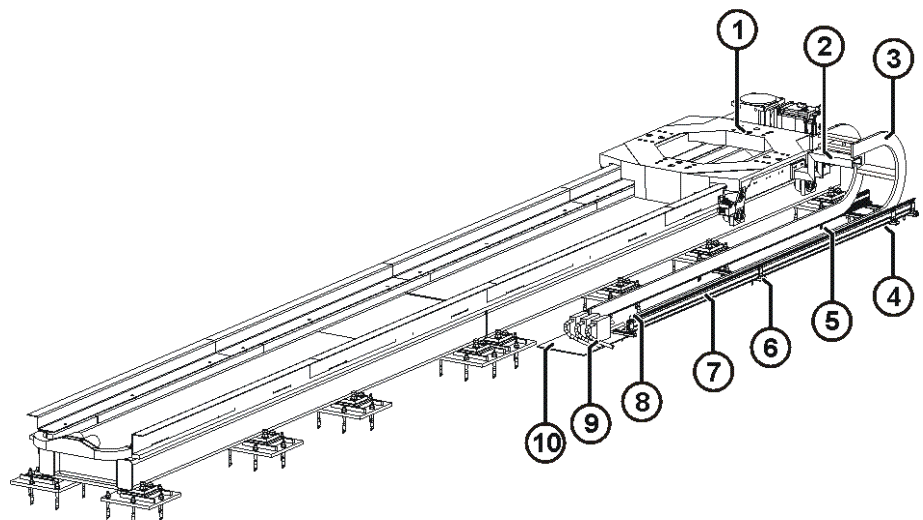

Fig. 8-8: Energy supply system, short travel
1. Release and unplug all connectors (>>> Fig. 8-8) and unions.